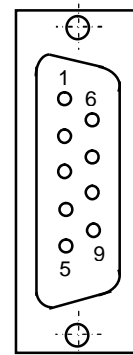

Figure 5.9
5.4.4.4 The hand wheel channel is linked to Connector «4» on the connector card of the CNC unit. The connector type is shown in Table 3.2. The arrangement of connector pins is shown in Figure 5.9. The channel signals are given in Table 5.10.